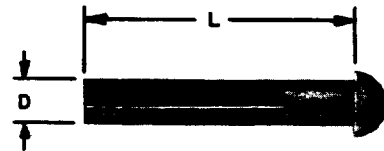

Fig. 3 - D Drive Anchor
1.05 D drive anchors (Fig. 3 and 4) are for use with standard drive rings.